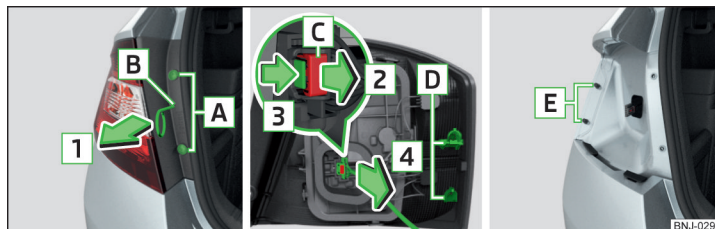

Fig. 306 Remove light / pull out connector
- › Unscrew the screws **A** » Fig. 306 with the screwdriver from the tool kit.
- › Tighten the lock in the opposite direction to the arrow **2** » Fig. 306.